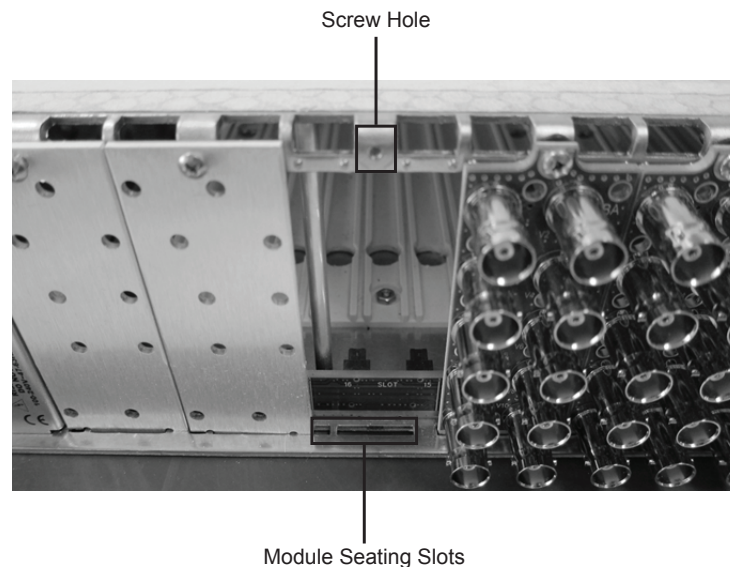

Figure 5.1 Rear Module Installation in an OG3-FR Series Frame (Cards not shown)
4. As shown in **Figure 5.1**, seat the bottom of the rear module in the seating slot at the base of the frame's back plane.